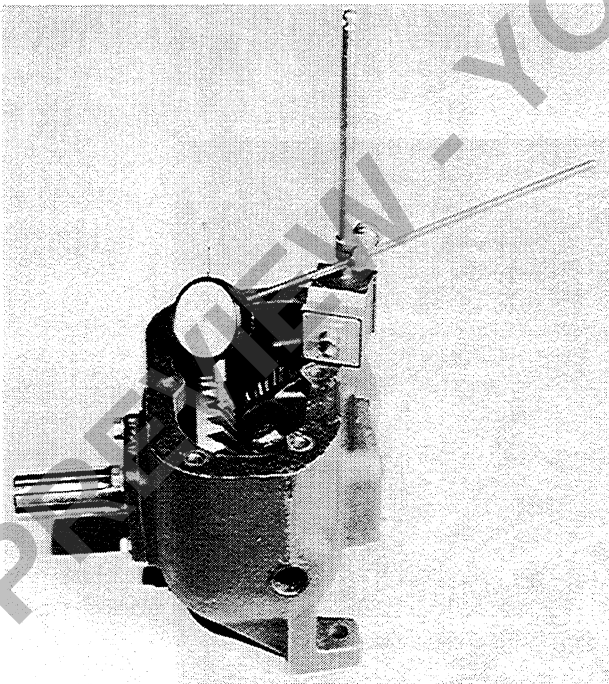

FIGURE 22
14. The backlash is adjusted next to obtain .005" to .014" clearance between the gears. Use a dial indicator on the gear as shown in Figure 22 and adjust by moving shims from the left side and adding these shims to the right side to decrease the backlash. Move shims the opposite way when the backlash is too close. Recheck the bearing preload.